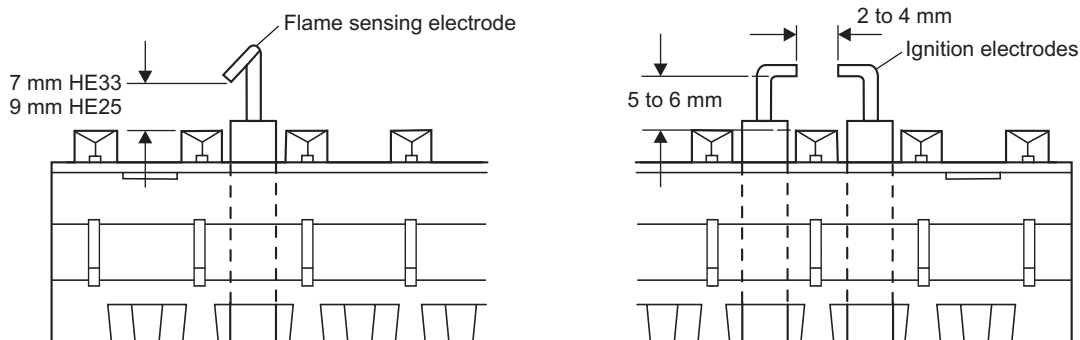

Fig. 25
9. Check the spark gap, positioning and height of the electrodes (see Fig. 25).
8.4 ELECTRODES - Fig. 25